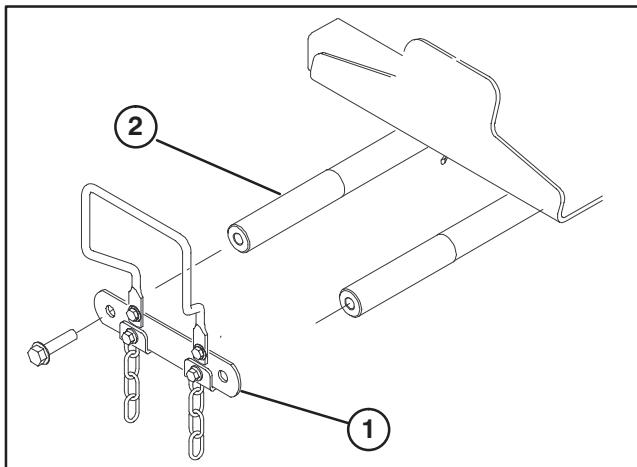

Figure 12
INSTALL FRONT LIFT ARMS (Fig. 12 – 26)
- Remove (2) capscrews securing lift arm pivot shaft link to lift arm pivot shafts. Remove and retain pivot shaft link and capscrews (Fig. 12).